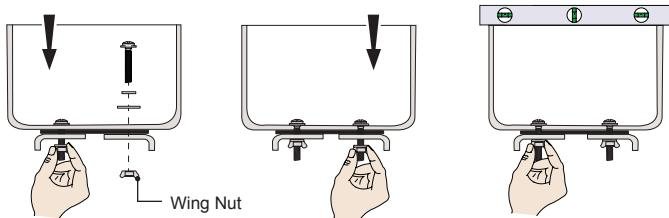

Figure 11
- ④** Thread in two (2) stainless steel mounting screws, stainless steel flat washers and seal washers bowl (Figure 11).
- ⑤** From the underside of the bowl, thread two (2) stainless steel wing nuts onto the mounting screw (Front View, below).